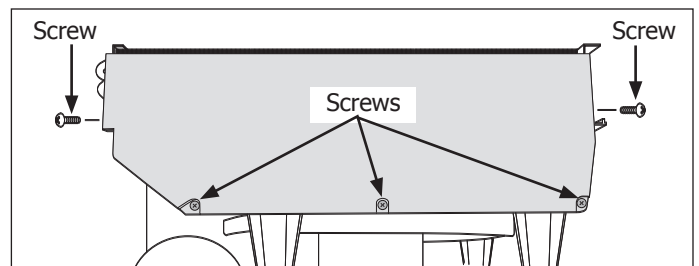

Figure 4-19.
3. Extract the screw from each side of the cover. (See Figure 4-19)